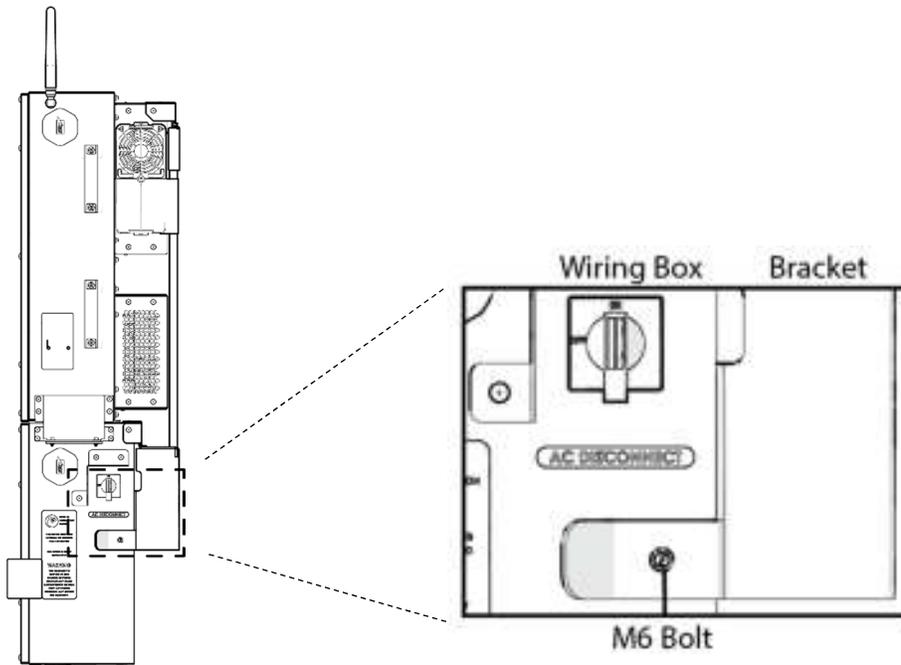

Figure 3-8 M6 Connecting Bolt (Right Side Shown)
Place the Wire Box onto the Mounting Bracket and align the PEMs on the Wire Box with the clearance holes on the Mounting Bracket as shown in Figure 3-8. Use two (2) M6 x 1.0, 12mm screws to secure it in place, torque the screws to 40 in-lbs. (4.5 N-m) using a 10mm socket.